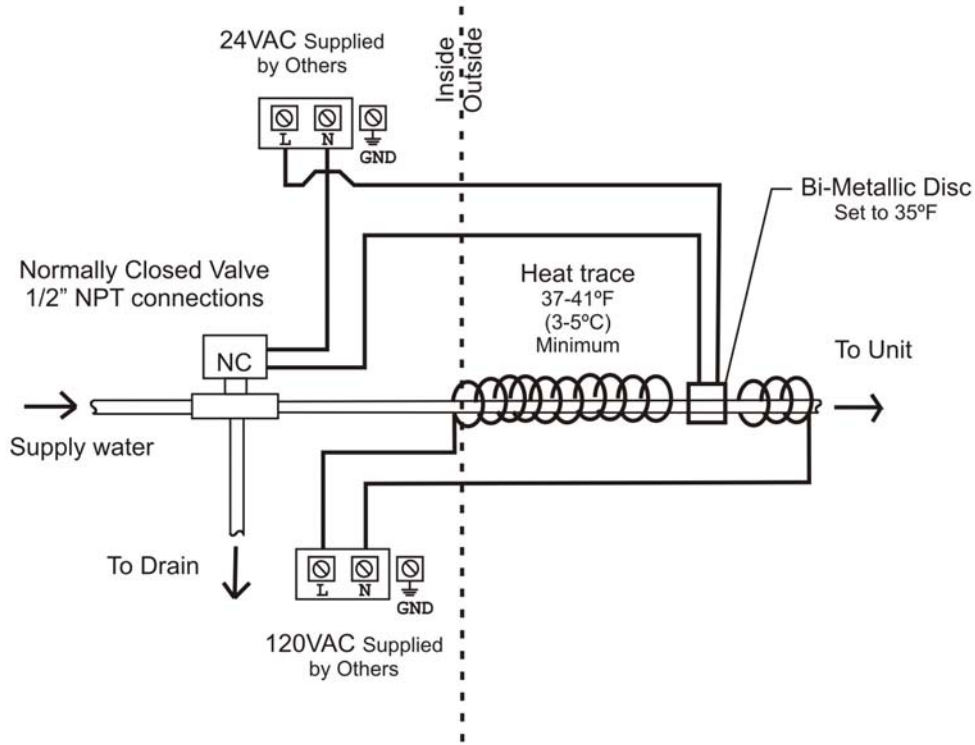

Figure 6. 3-Way Valve Arrangement
- (3) The second method operates on the same principle as the first, however it replaces the two-valve configuration with a single safety three-way water valve. This valve is to be installed inside of the building. When the humidifier begins to operate, it will energize this valve and send water to the humidifier. When the humidifier is not in use, the valve will close the supply, and allow water in the outdoor lines to flow to drain. See Figure 6 for details.
- (4) The valves described above should operate on either a 24V or 110V signal and should be wired to the appropriate terminals inside of the humidifier.
- (5) Additionally the following points should be considered: